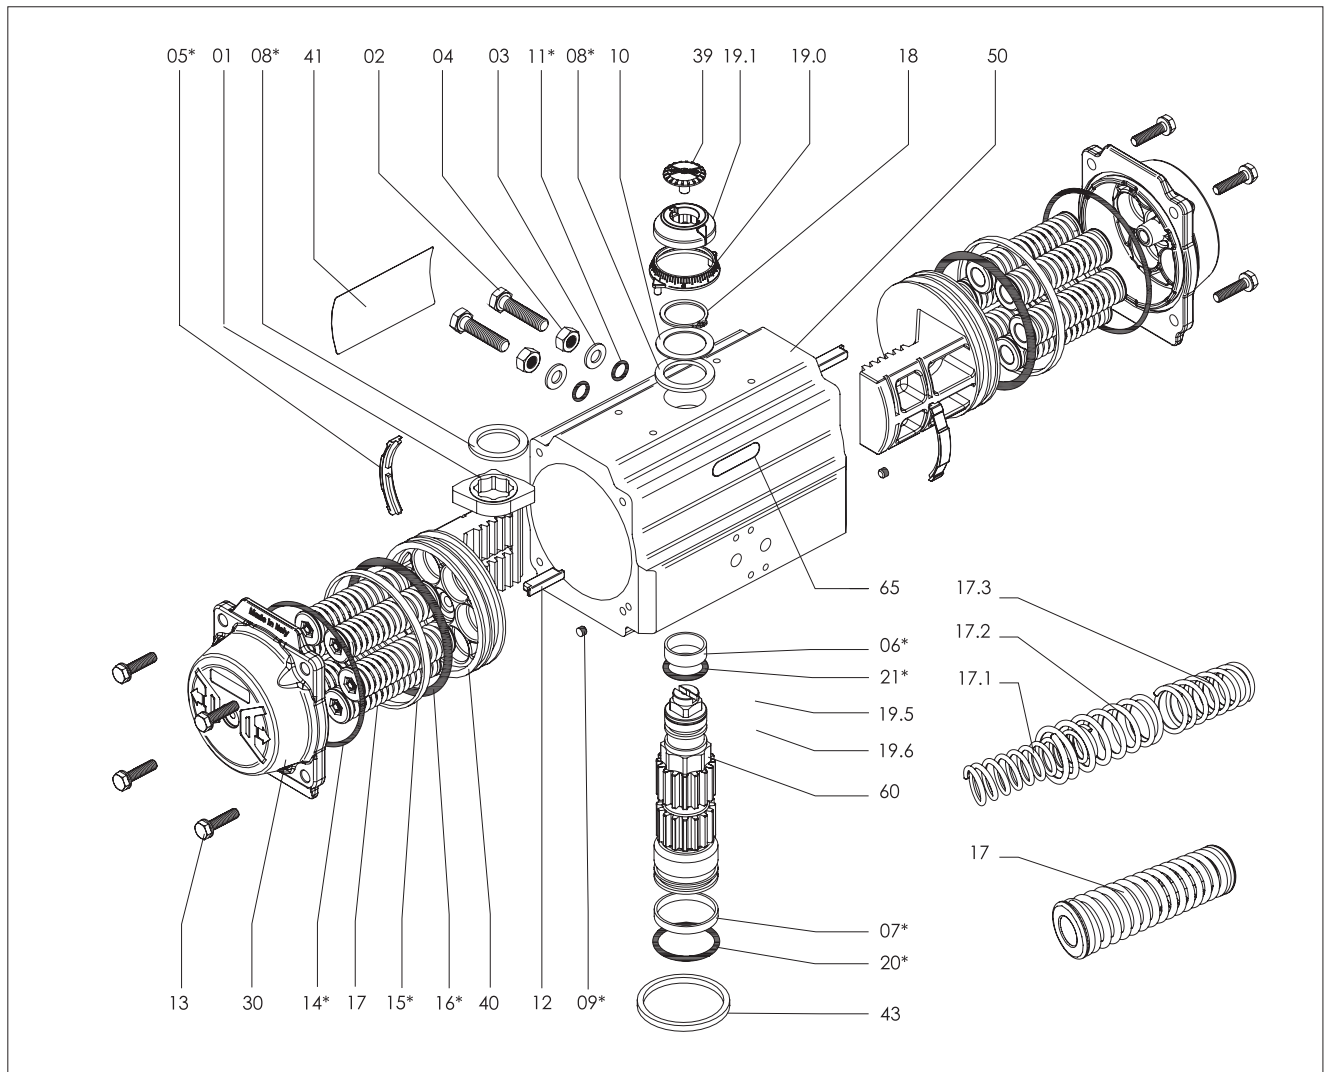

Figure 24.
- C. From **Figure 24**, the ballooned part number, part name and quantity required.
TABLE 3 - PARTS LIST FOR (FIGURE 24)